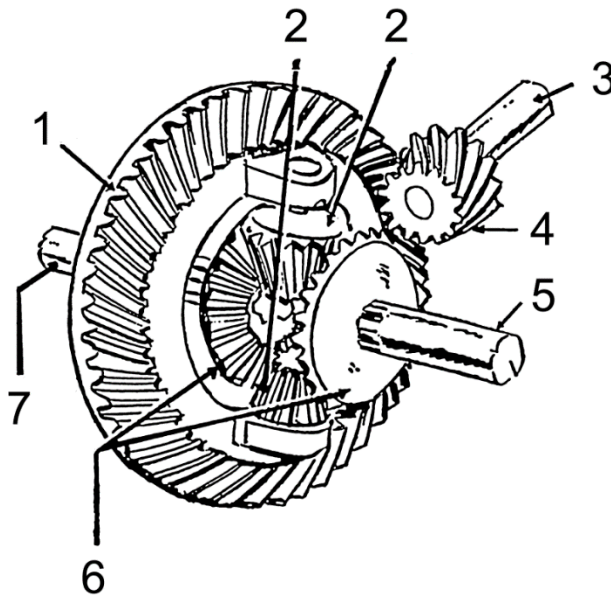

Figure 4
Q.4 Identify and label the following mechanism shown in figure 4